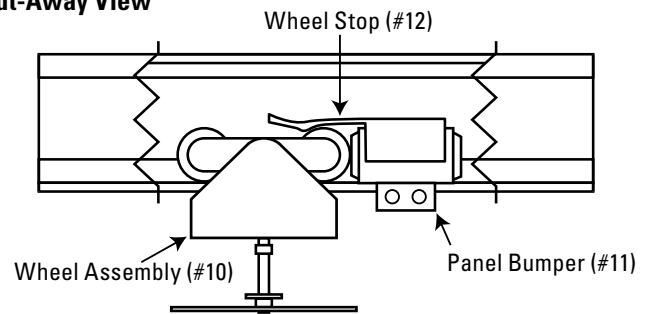

Figure 7
2. Slide the Wheel Stop over the Wheel Assembly. See **Figure 7**.